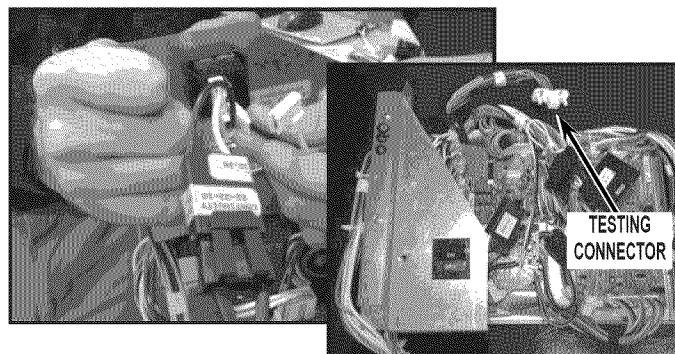

FIGURE 18
- Reconnect Line and Neutral from the new HV assembly to the master power switch on the switch plate assembly. If switch plate does not have hole for end of line testing connector, leave testing connector unattached behind the switch plate. See *Figure 18*.